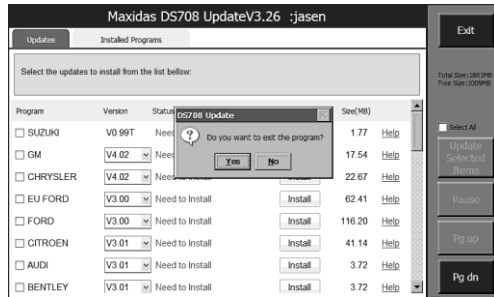

Figure 2.8: Exit Update program
**NOTE:** Please use the System/Help > About function to find out the Product Serial No. and Register Password. For details, please refer to the Section 5.11 About. Or, you could find the information on the pop-up registration MessageBox (Figure 2.8).